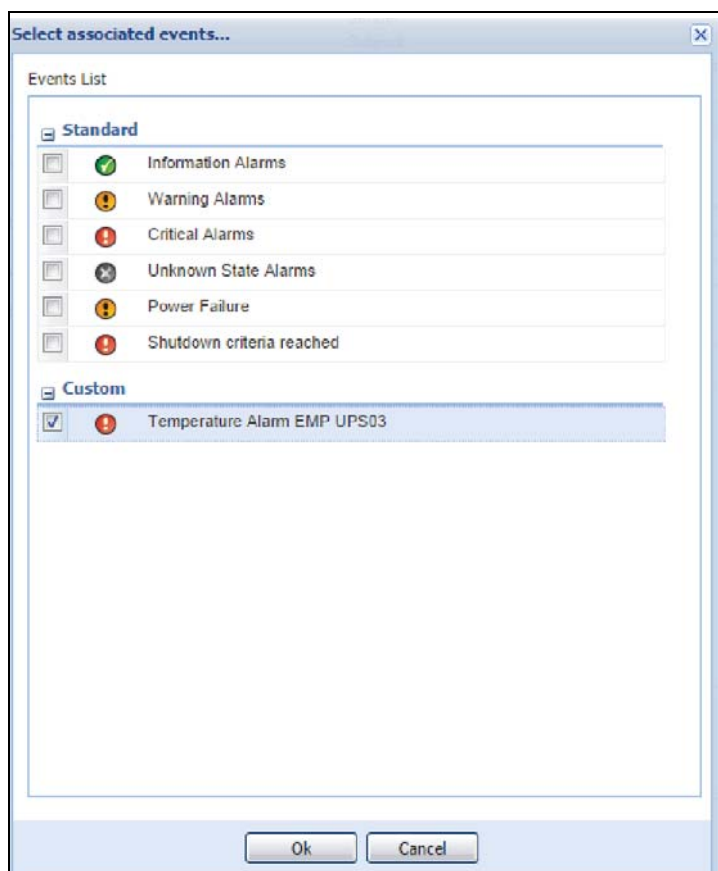

Figure 249. Select Temperature Event
3. Select the Temperature Event created previously. Click **Ok** (see Figure 249).